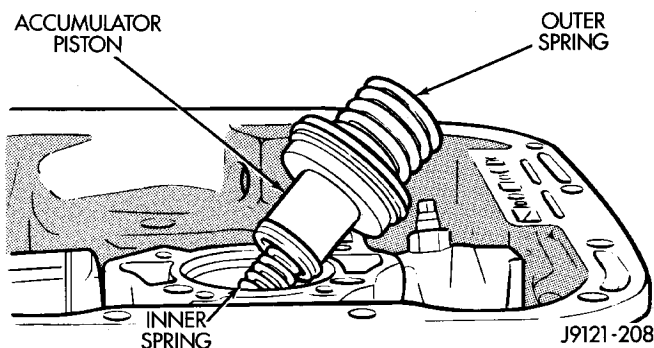

Fig. 93 Accumulator Piston And Springs
(11) Remove accumulator piston and inner and outer springs (Fig. 93).
(12) Remove pump oil seal with suitable pry tool or slide-hammer mounted screw.